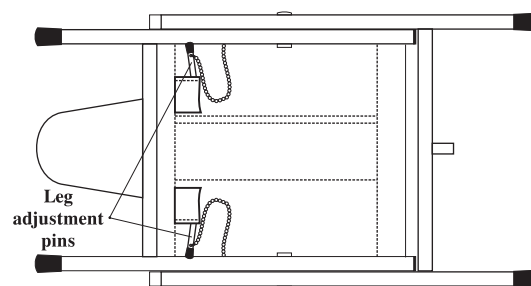

Figure 1 - Leg Adjustment Pin Location
2. Rotate the chair up onto one side and remove the leg adjustment pins from their storage pouch underneath the chair seat. (Fig. 1)
1. **Seat Height-** The ADC-01 chair seat height can be set at any of the five preset settings. Without a patient in the chair, put your toe on one of the front chair legs and lift up slightly on the chair seat. While lifting and holding seat, remove the leg adjustment pin from the right and left side. Align link with tube hole in any of the five positions and lock in place by inserting the pin and chain assembly. (see Fig. 1)